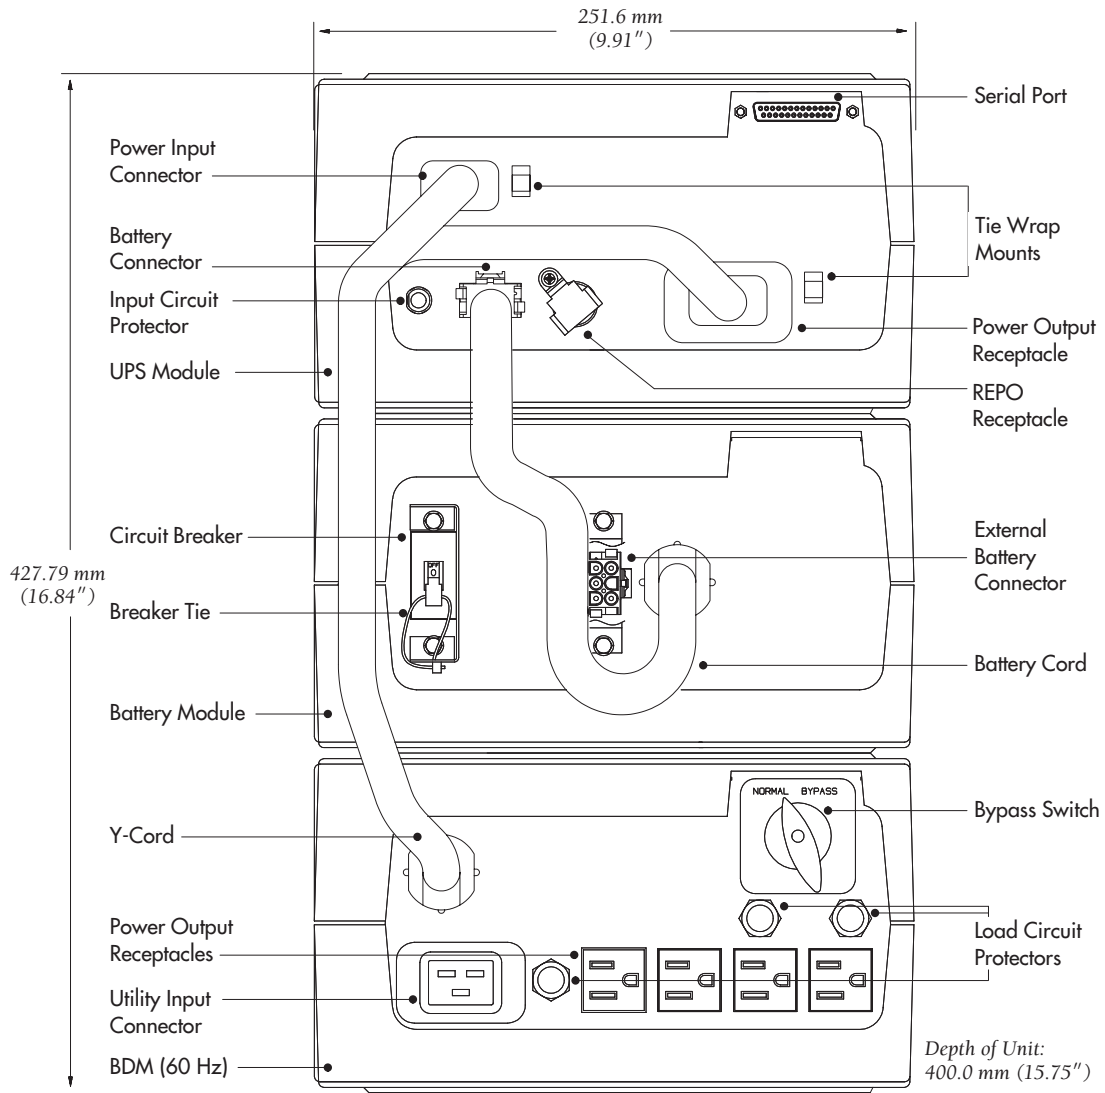
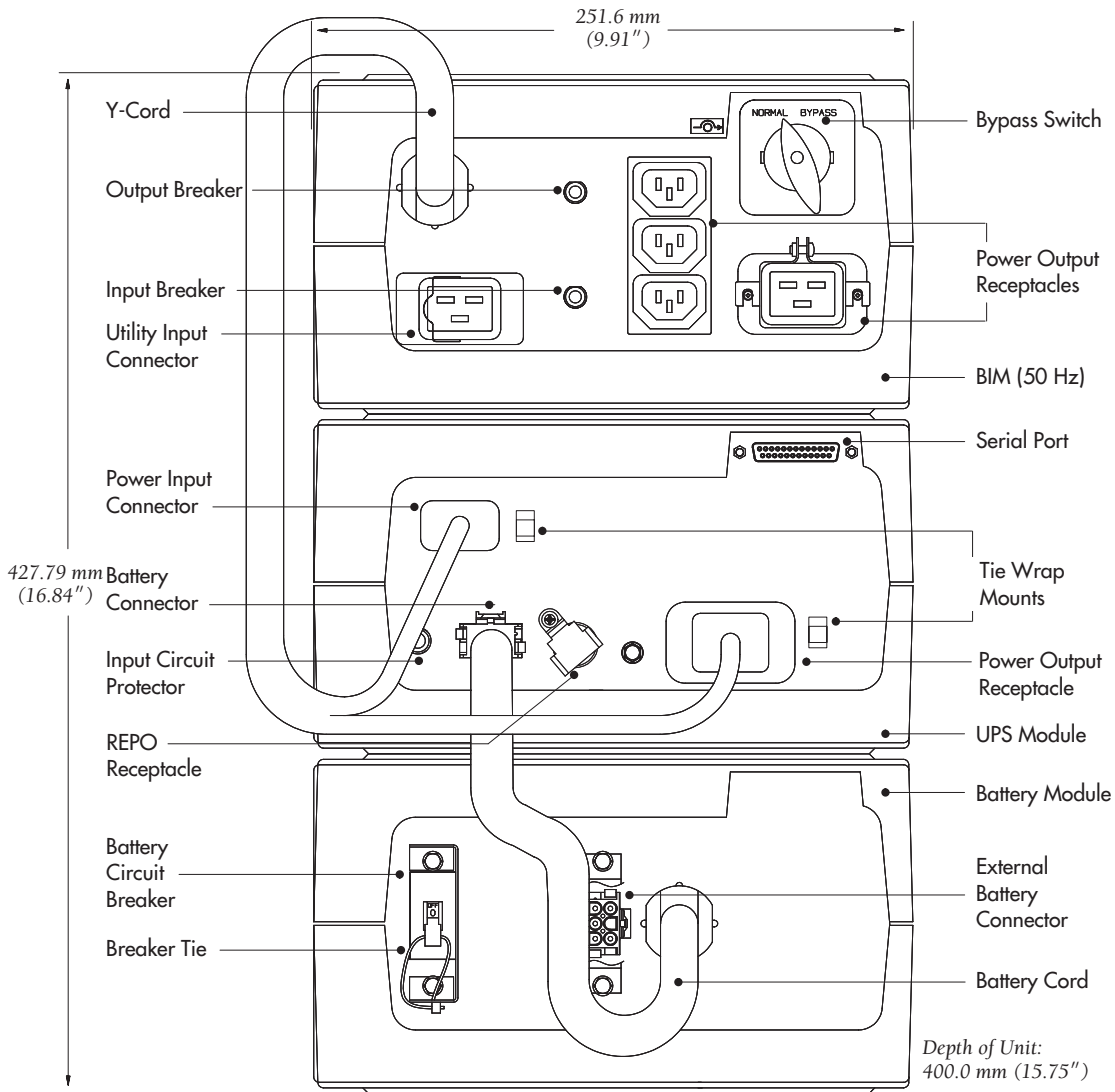

Figure 5. UPS with BDM Rear Panel
Figure 6. UPS with BIM Rear Panel
Whenever the units are not energized, make sure the circuit breaker on all battery modules is returned to the OFF (O) position (see Figure 5 on page 26).
- 5** Make sure the Bypass switch on the Bypass Module rear panel is in the NORMAL position (see Figure 5 or Figure 6).
- 6** Make sure the circuit breaker on all battery modules is in the OFF (O) position.
- 12** Plug the Y-cord of the Bypass Module into the power connectors on the UPS rear panel as shown in Figure 5 or Figure 6.
- 2** Pivot the REPO receptacle guard out of the way, plug the REPO plug/receptacle UPS connector into the REPO receptacle on the UPS rear panel (see Figure 5 on page 26 or Figure 6 on page 27). Twist the connector in place.
- 1** Make sure the Bypass switch on the Bypass Module rear panel is in the NORMAL position (see Figure 5 on page 26 or Figure 6 on page 27).